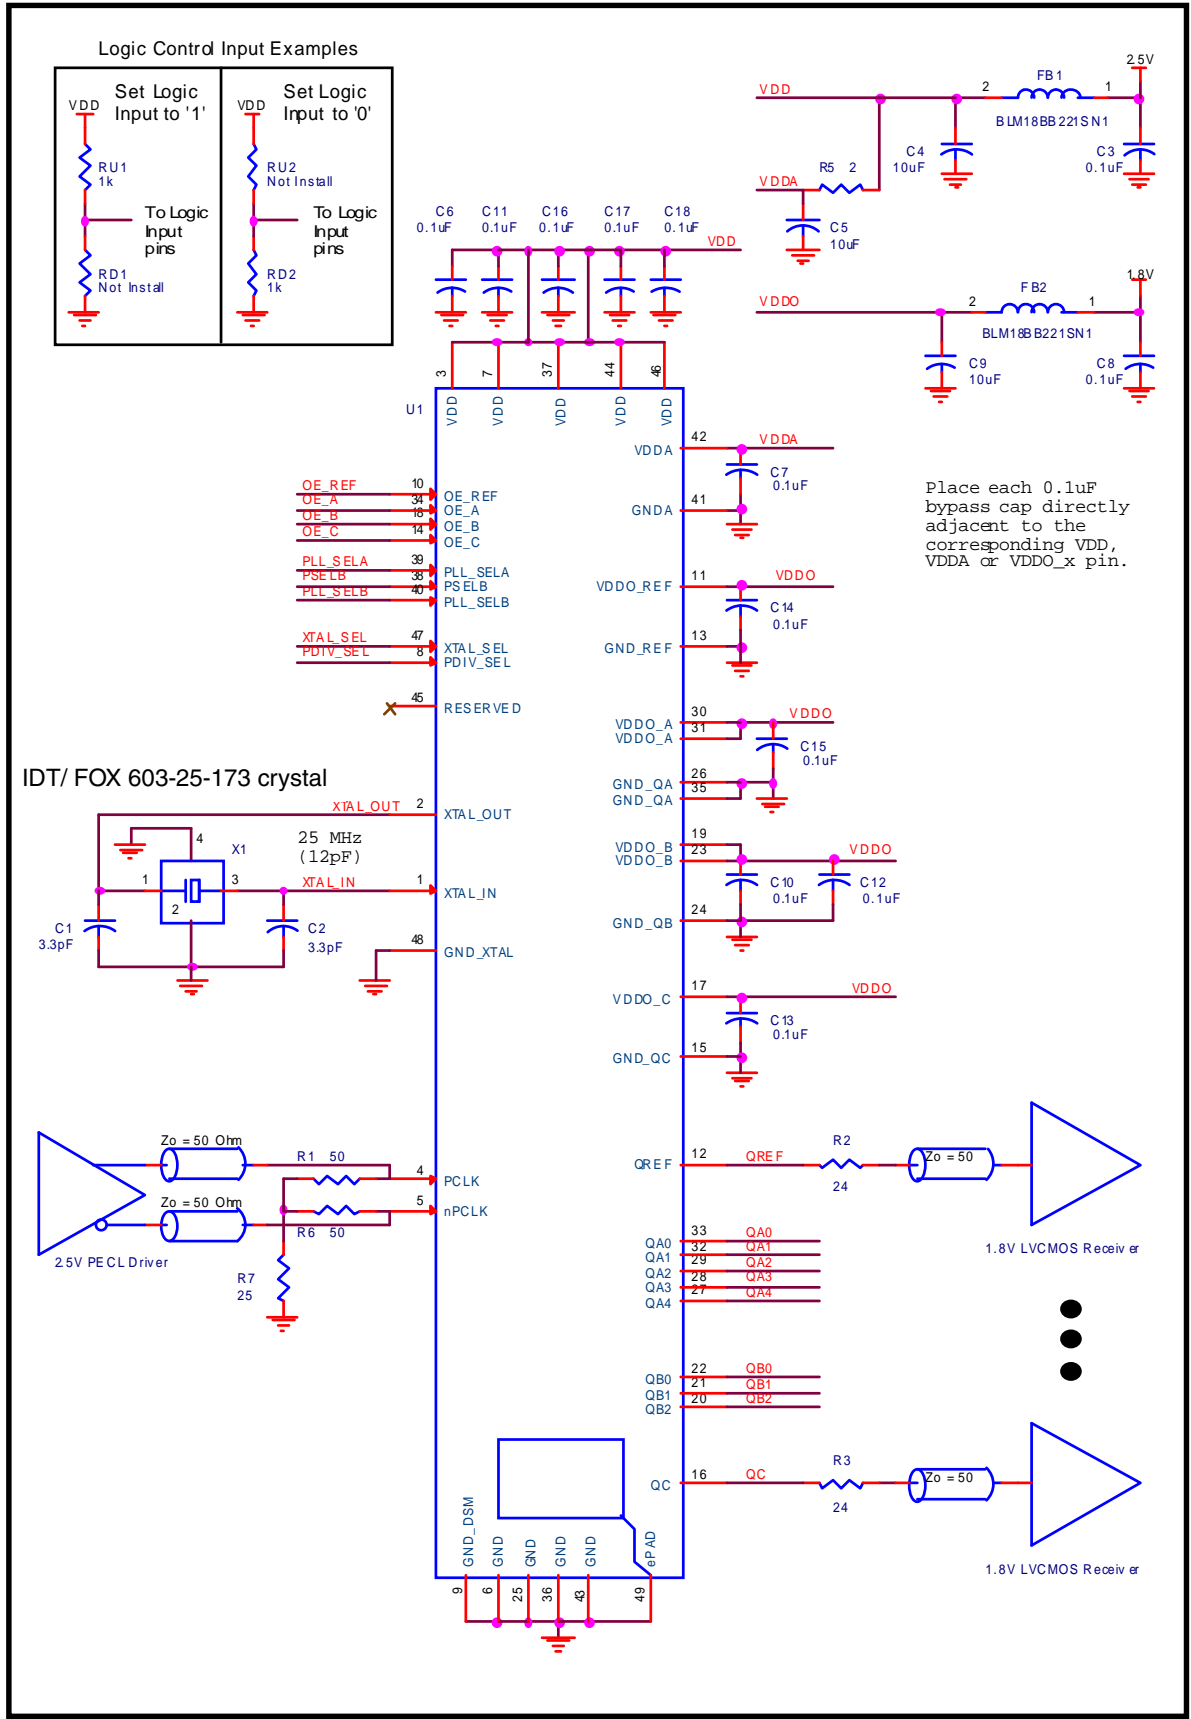

Figure 5. 840NT4-01 Schematic Layout
*Figure 5* (next page) shows an example 840NT4-01 application schematic. This schematic example focuses on functional connections and is not configuration specific. Refer to the pin description and functional tables in the datasheet to ensure that the logic control inputs are properly set. In this schematic, the device is operated at  $V_{DD} = V_{DDA} = 2.5V$  and  $V_{DDO\_A}$ ,  $V_{DDO\_B}$ ,  $V_{DDO\_C}$  and  $V_{DDO\_REF} = 1.8V$ .